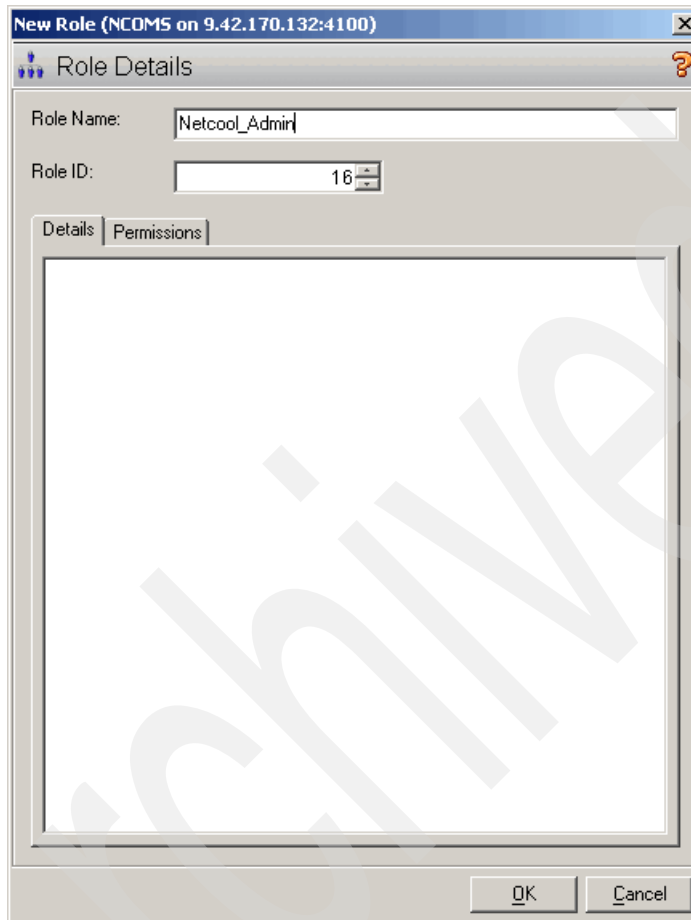

Figure 4-14 IBM Tivoli Netcool/OMNibus Administrator New Role tab
- To create a role, click the Add New Role icon (). The New Role tab is shown in Figure 4-14.